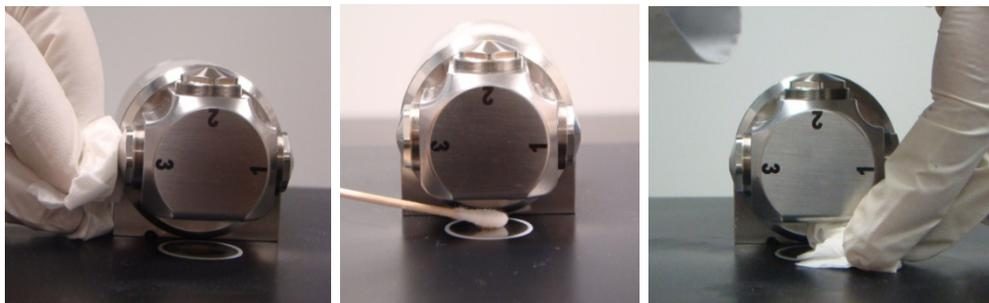

Figure 9. Cleaning the DialPath Position 3 window (left) and cleaning the sample mounting area
- 2 Clean the window of the position last used for analysis, using a cotton swab dipped in acetone (see Figure 9, which shows cleaning Position 3).
- 3 Clean the bottom sample mounting area (see Figure 9).